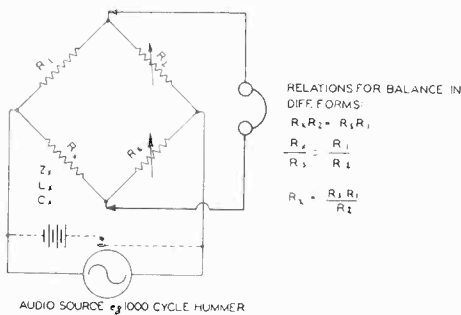

FIG. 1
parallel, and the tube is then checked with 6 volts on the filament. As the cathode of the tube is brought out to pin No. 4 the No. 4 switch is also thrown to the negative position. The quality selector setting is 22. See Fig. 1, extreme right.
A meter which serves to show a central point of zero or minimum current is called a "null" indicator and is used in bridge circuits, such as Wheatstone's bridge, to indicate the condition of balance (Fig. 1). The 'phone unit makes a sensitive null indicator, replacing delicate and expensive meters that are easily damaged, since it can handle with no damage to itself an enormous ratio of maximum to minimum signal. Bridge measurement is the preferred method of determining electrical values. Another similar use for the unit is as the indicator in zero beat methods of matching coils and condensers (Fig. 2.)
In Fig. 1 is shown the circuit of a simple bridge using an audio frequency voltage supply, and the 'phone unit as the null or minimum sound indicator, for measuring or comparing resistance (R) and impedance (Z) values, as well as inductance (L) and capacitance (C) values of coils and condensers having a good Q or power factor. But suppose no alternating current source is available to supply the bridge. Can our earphone be of any use there? It can: we use a battery instead of the audio source, *but* put a push-button in series with the battery; then keep closing and opening the circuit while adjusting the standard R_s until the sound